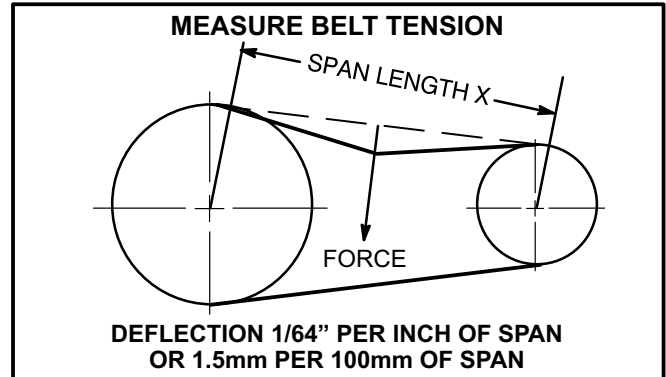

FIGURE 12
- 1- Measure span length X. See figure 12.
- 2- Apply perpendicular force to center of span (X) with enough pressure to deflect belt 1/64" for every inch of span length or 1.5mm per 100mm of span length.